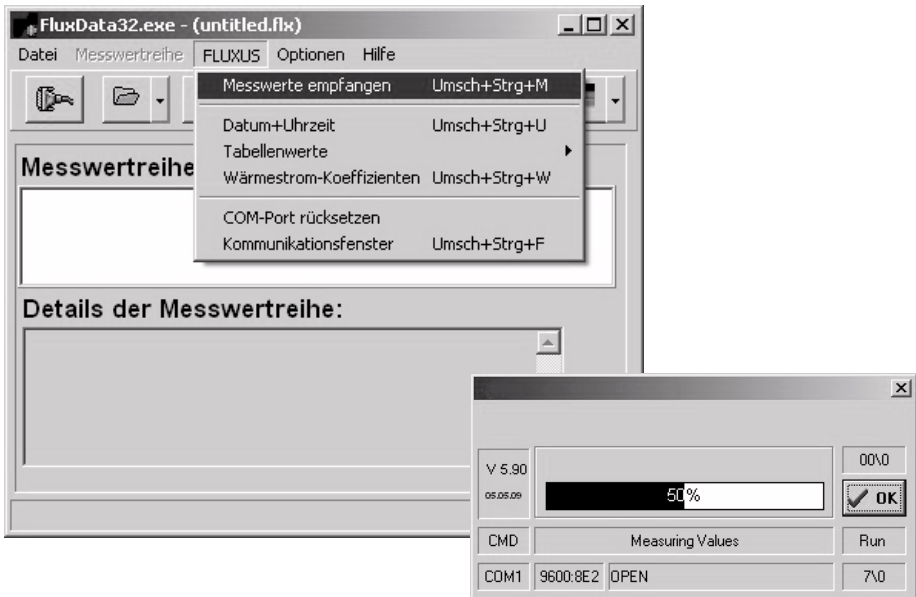
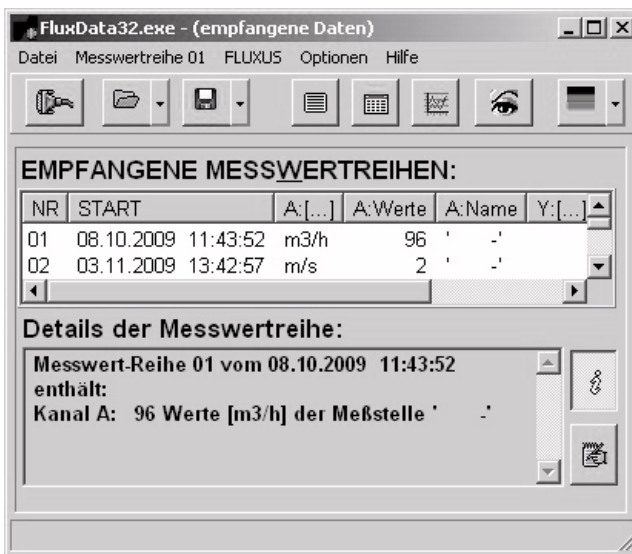

Fig. 12.2: Receive measured values
Fig. 12.3: Display of the received measuring data sets
- In the program FluxData, open the menu "DUT" and select "Receive Measuring values" (see Fig. 12.2). The received measuring data sets will be displayed (see Fig. 12.3).